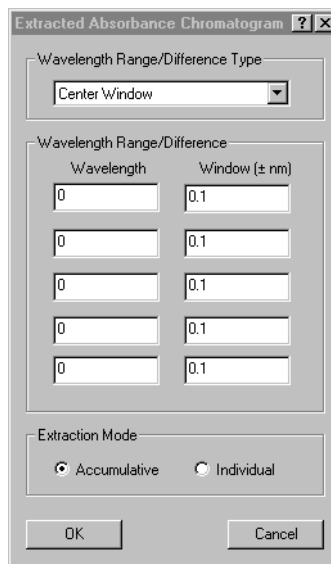

Figure 4-6 *Extracted Absorbance Chromatogram Dialog Box*
5. In the Extracted DAD Chromatogram dialog box (Figure 4-6), click one of the following: